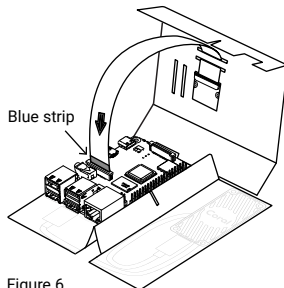

Figure 6
- 16 Set the Raspberry Pi in the internal frame and insert the camera cable straight down into the camera connector so the blue strip is facing the latch, as shown in figure 6. Then press the latch back down to lock the cable in place.